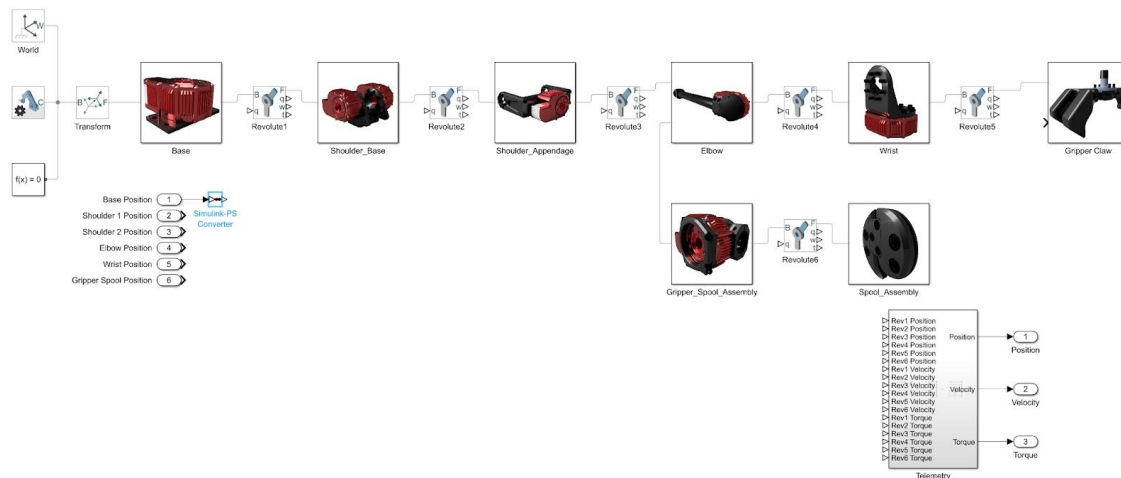

Figure 8: HEBI Arm Block Diagram Simulink-PS Converter
10. After making the changes to the revolute blocks, insert a “Simulink-PS Converter” block and place it directly to the right of the “Base Position” connection port. Once placed, connect the “Base Position” connection port to the “Simulink-PS Converter”. At this point, the HEBI Arm block diagram should look as it does in figure 8.